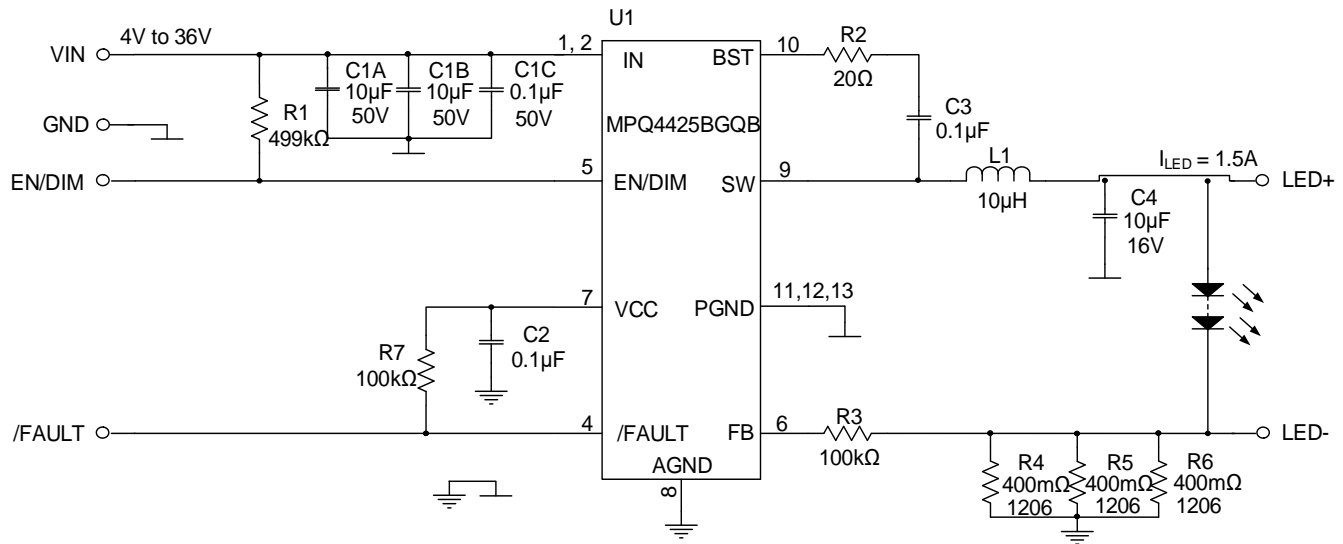

Figure 9: $I_{LED} = 1.5A$ Application Circuit of QFN-13 Package
- 8) The recommended layout is based on Figure 9.